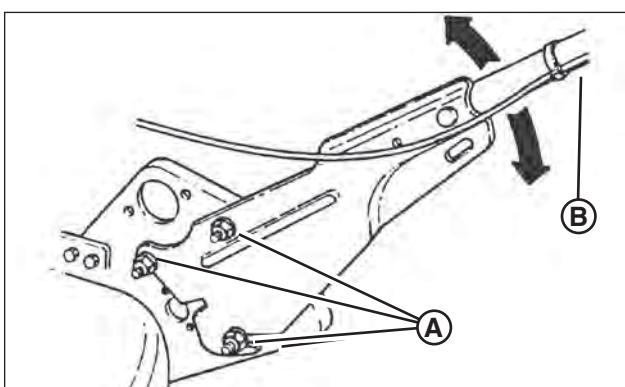

Figure 5: Adjusting the handle height
1. Loosen the lower nuts (**A**, Figure 5) on each lower handle.